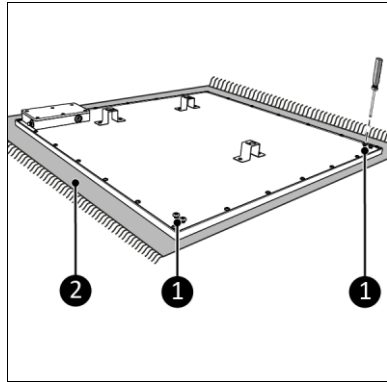

Figure 5
1. Lay the device down on a soft, steady surface (Figure 5, pos. 2).
2. Remove the screws (Figure 5, pos. 1).